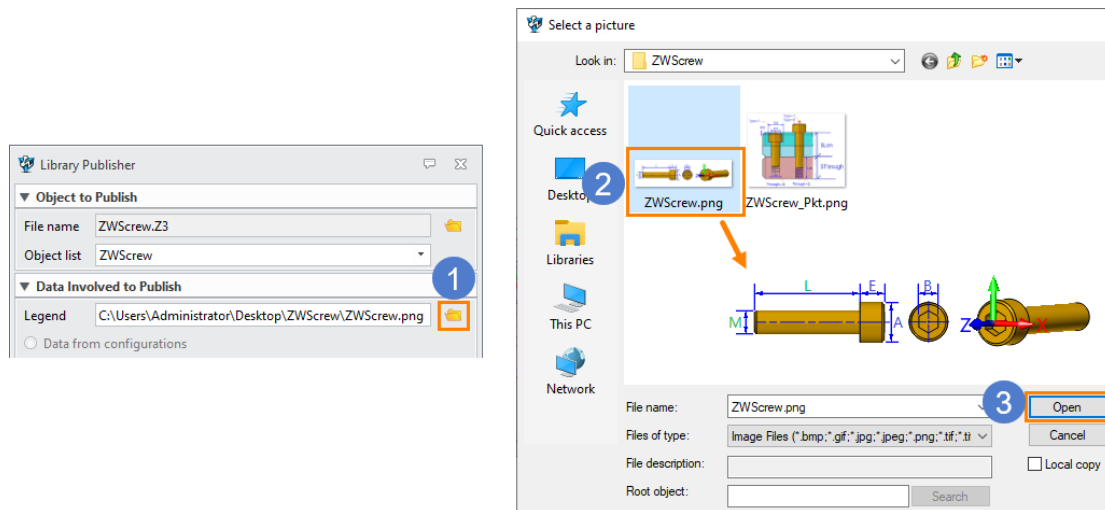

Figure 45 Legend Settings
**STEP 01** Put the images for assembly and dimensions in the folder where the model is stored, following **Tools->Library->Library Publisher**. Then, click the folder icon from **Legend** and choose the dimensions image as shown in Figure 45.